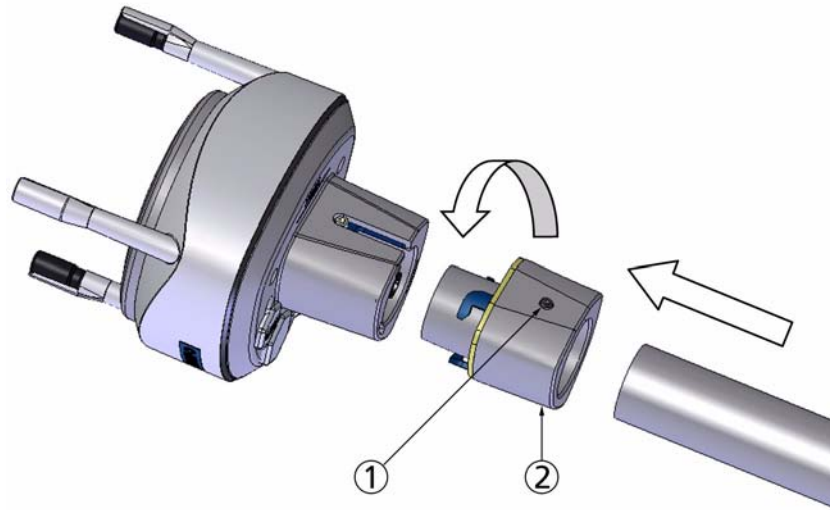
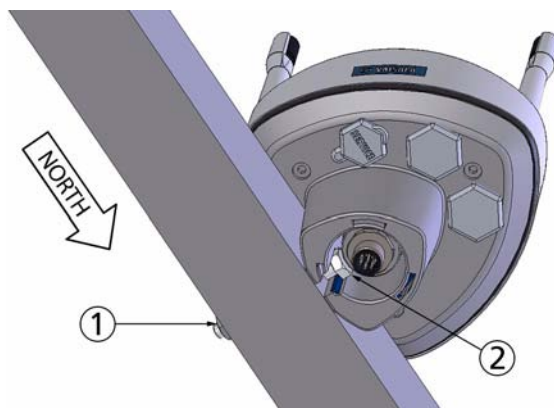

Figure 7 Mounting WMT50 to Pole Mast Using Optional Mounting Kit
Figure 8 **Mounting WMT50 to Cross Arm**
The following numbers refer to Figure 7 on page 28:
3. Mount the sensor into the cross arm by using the fixing screw (M6 DIN933) and a nut, see Figure 7 on page 28 and Figure 8 on page 29.
The following numbers refer to Figure 8 on page 29: